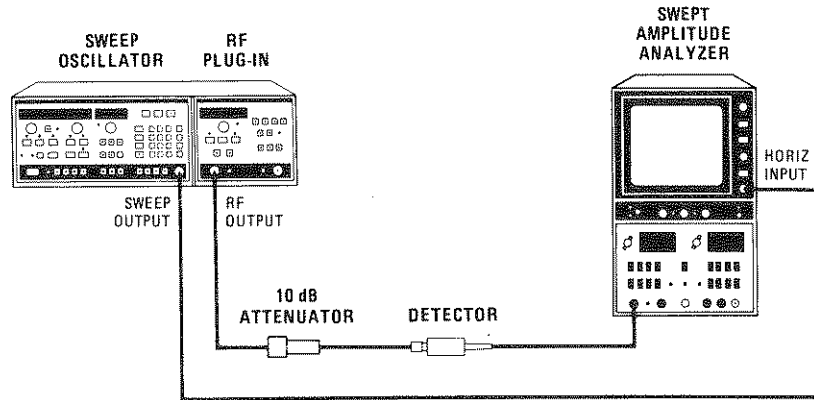

Figure 5-30. Power Sweep Test Setup
1. Connect equipment as shown in Figure 5-30. Select 8350A \square MOD.